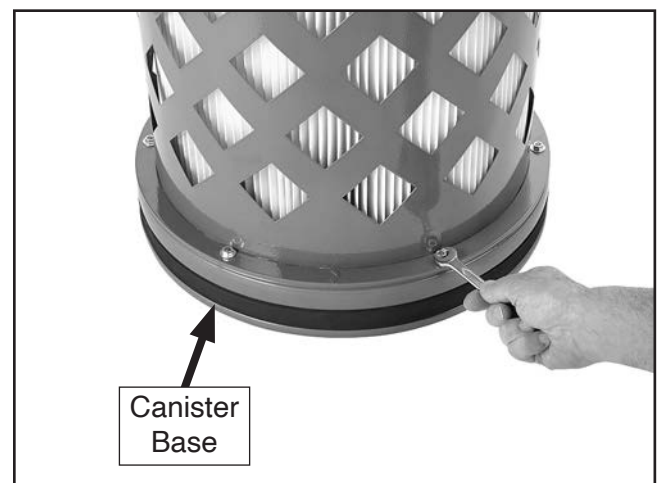

Figure 73. Example of removing hex nuts and flat washers from rim of canister base.
5. Remove the six hex bolts, hex nuts, and flat washers from the rim of the canister base, as shown in **Figure 73**.